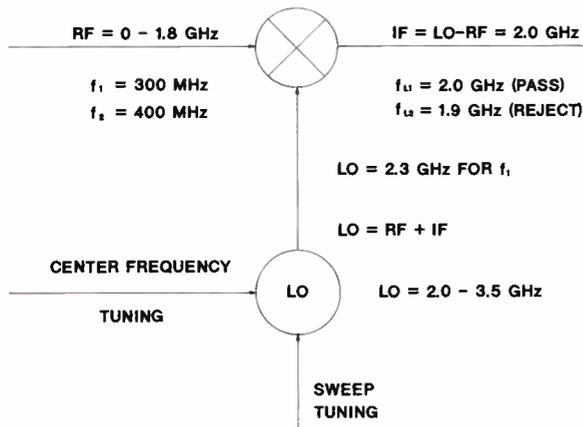

Figure 4
information from each console is sent back to the switch for reconfiguration of the downstream video. A master control computer for control of SW1648's is located in the central office and is tied into the telephone billing system to provide information on pay-per-view or statistical viewing preferences, as illustrated in Figure 4.
signals out of a broadband spectrum containing, for example, dozens of CATV channels? Figure 4, the input mixer, shows us. The RF-input and local oscillator (LO) signals combine in the mixer to create a fixed-IF signal. The fundamental tuning equation determines the LO frequency needed to mix with a specific RF signal to produce the IF: $LO = RF + IF$ or $IF = LO - RF$. As the LO center frequency is tuned, the unique input frequency that can be converted to the IF changes. Tuning the LO, thus, tunes the RF input, and individual RF signals are selected for viewing on the CRT by tuning the LO. The example in Figure 4 illustrates how a 300 MHz signal is selected while a 400 MHz signal is rejected.
Looking again at the input-mixer diagram, Figure 4, we can see how the spectrum analyzer displays a number of different signals simultaneously. As the LO center frequency is swept by the sweep generator, the analyzer opens a window for viewing RF-input signals
in a frequency range determined by the swept-LO range. If the window size is wide enough to include the input signals, the analyzer will display them, but signals outside the window will be excluded. In Figure 4, the 2.3-GHz LO is swept ± 150 MHz, creating an RF window from 150 MHz to 450 MHz around a 300 MHz center frequency.